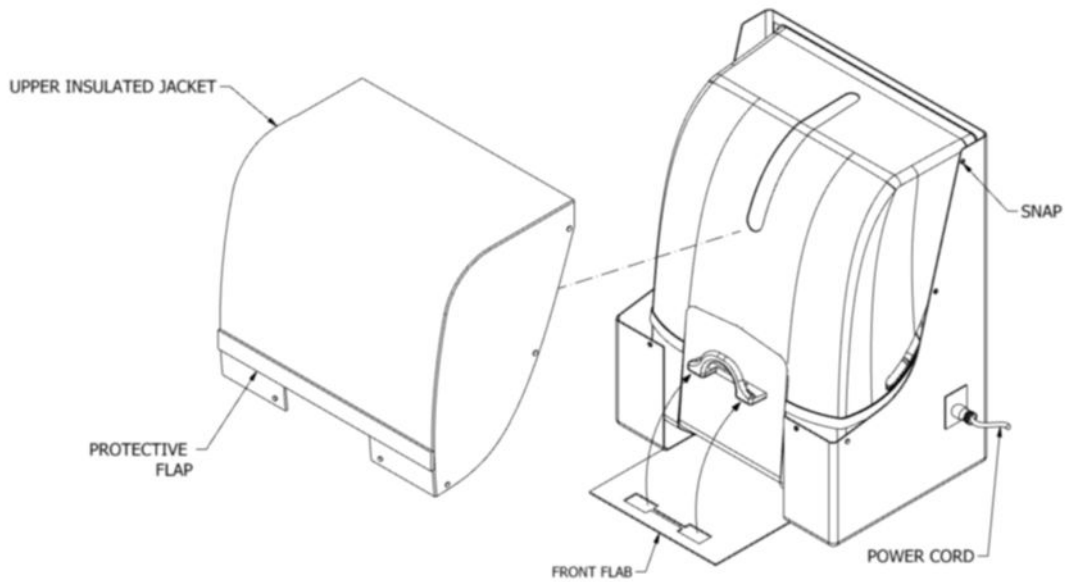

FIGURE 14
Step 6. Upper Insulated Jacket (Ref Figure 14)